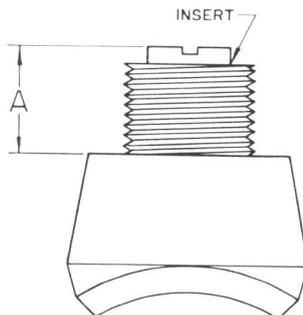

Figure 7. The above Installation Dimension Tag is attached to each fitting.
- A. Remove the insert (see Figure 7) before installing the fitting.
- F. Reinstall the insert, referring to the "A" dimension in Figure 7.